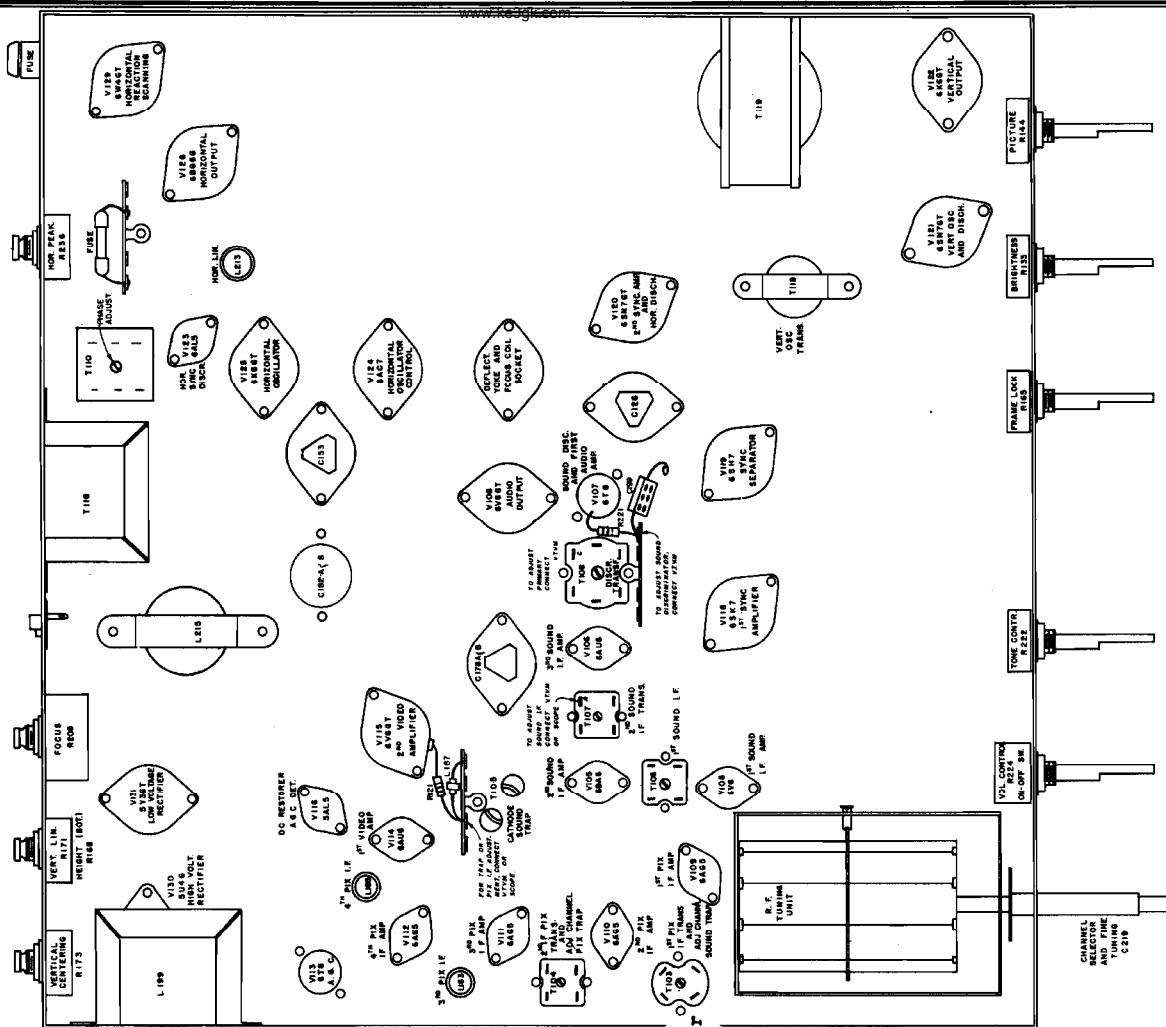

FIGURE 13- CHASSIS BOTTOM VIEW MODEL 55, 56
8. Horizontal Phase Adjustment (See Fig. 13)
3. Connect vacuum tube voltmeter to DC output of discriminator in main chassis (R221 and C199 - Figure 13).